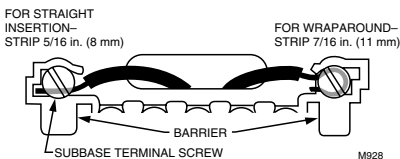

Fig. 3. Wiring connections.
- 6 Connect the system wires to the subbase. See Fig. 4-7. A letter is stamped near each terminal for identification. The terminal barrier permits straight or conventional wraparound wiring connections. See Fig. 3. Either method is acceptable. Run wires as close as possible to the subbase, keeping wire length to a minimum. Push excess wire back into hole. Plug hole to prevent drafts.